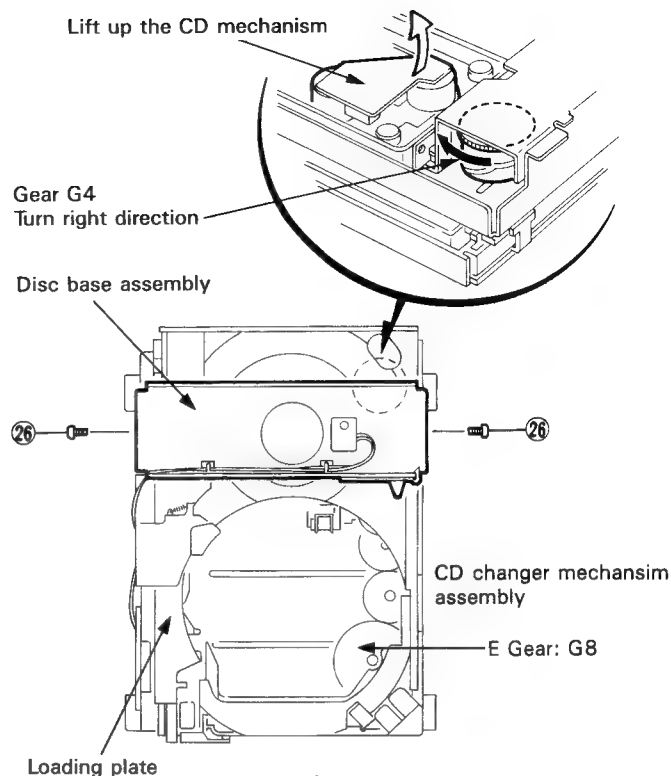
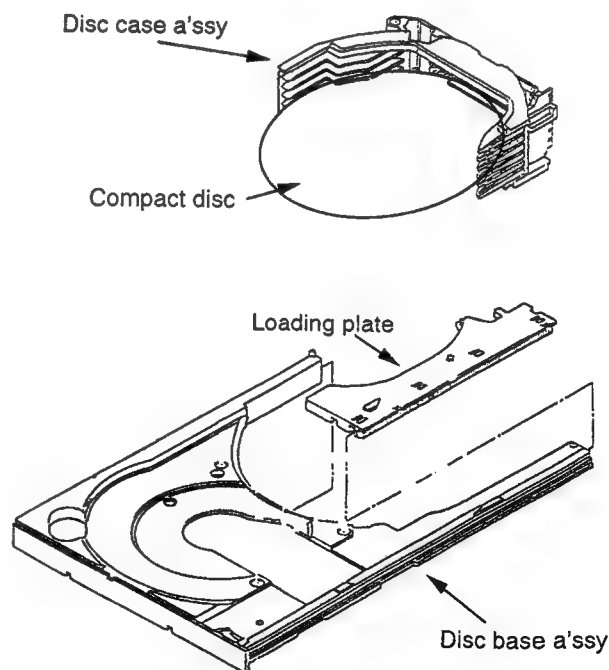

Fig. 7-21
Fig. 7-22
■ Method of removing the clamber base assembly (Refer to Fig. 7-21)
6. From the CD changer mechanism assembly, remove the two screws (26) retaining the clamber base assembly.
- 2-1. Method of ejecting the compact disc on the disc base ass'y (Refer to Fig. 7-21).
- (1) Turn the gear G4 clockwise and lower the CD mechanism.
- (2) When the loading plate is located at the rearmost position, move the plate to the front panel side (At this time, the compact disc will be set on the disc base ass'y by the loading plate).
- (3) By moving the disc base ass'y to the front panel side, take out the compact disc.
- 2-2. Method of ejecting the compact disc left on the disc case ass'y (Refer to Fig. 7-22)
- (1) Move the loading plate to the rearmost position.
- (2) Turn the E gear G8 counterclockwise, and move up the disc case ass'y into which any compact disc has been loaded.
- (3) While turning the E gear G8, align the first compact disc (the lowermost compact disc on the disc case ass'y) to its loading position to the loading plate.
- (4) After the loading plate onto which the first compact disc is loaded has been moved to the front panel side, pull out the disc base ass'y from the front panel side and take out the compact disc.
- (5) Eject the second through sixth compact discs as well similarly according to the procedures in Items 1 through 4. Whenever the second and subsequent discs are to be ejected, however, align the compact disc to be ejected to the height of the loading plate.